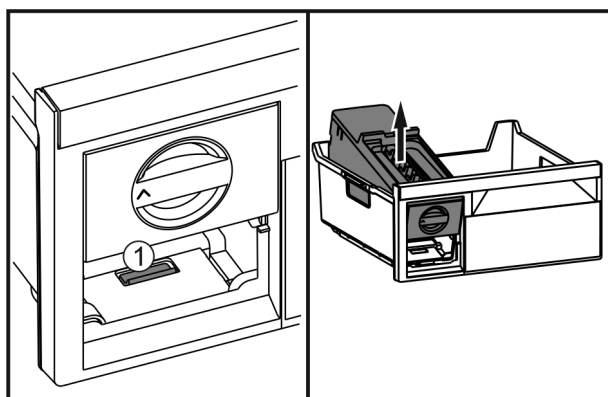

Fig. 40
- Press the lug Fig. 40 (1), lift up the EasyTwist-Ice at the rear and take it out of the freezer drawer.